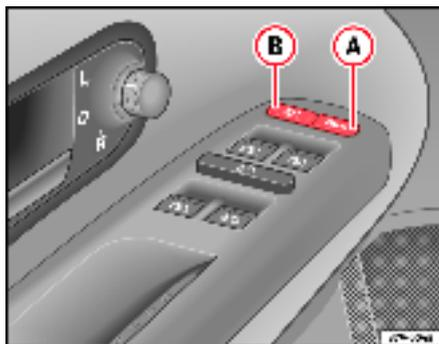

Fig. 57 Detail of driver door: central locking system button
- Press button  ⇒ fig. 57  ⇒ .